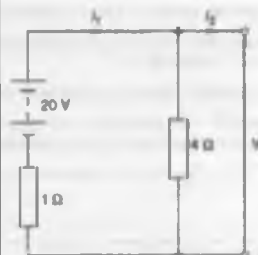

Figure 13.96
- 13 For the circuit shown in Fig. 13.96, voltage V is:
- 14 For the circuit shown in Fig. 13.96, current I_1 is:
- 15 For the circuit shown in Fig. 13.96, current I_2 is: